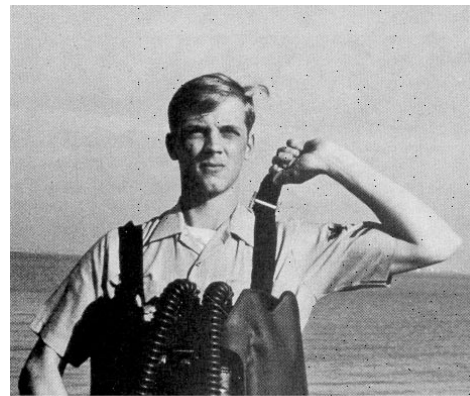

Figure 5-14. Step 3, donning the OBA.
Step 3. Position the breastplate on your chest so that the breathing tube connections are slightly below your shoulders. Your head movement should not be restricted when you don the facepiece. While holding the apparatus in this position, adjust the two underarm straps and then adjust the two shoulder straps (fig. 5-14) until the apparatus fits comfortably. The harness pad should be located in the center of your back, down from the neck for a comfortable fit.